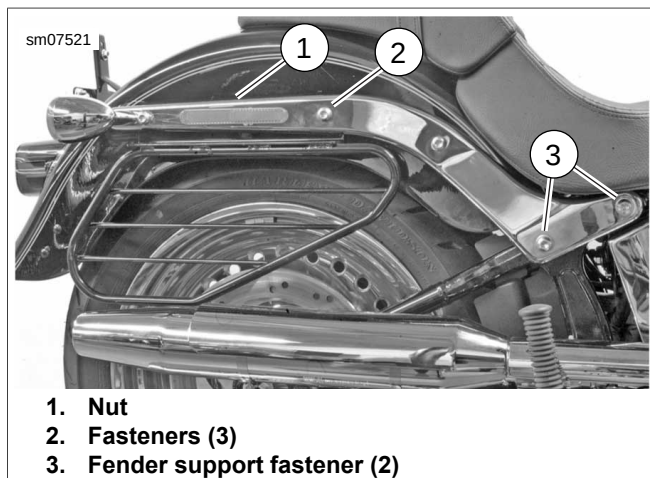

Figure 2-137. Right Saree Guard
1. See Figure 2-137. Loosen fender support fasteners (3).
2. Remove three fasteners (2).
3. Remove nut (1) located behind strut cover